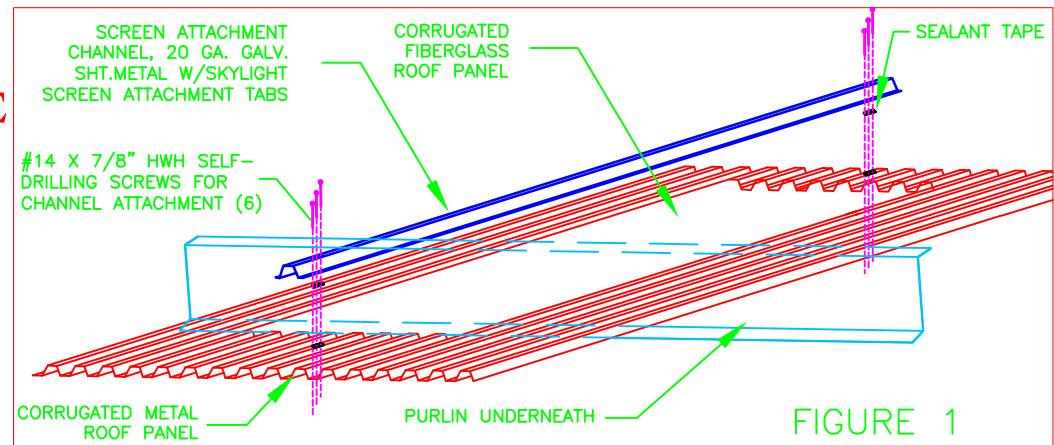

FIGURE 1
1. POSITION THE SCREEN ATTACHMENT CHANNEL SO THAT EQUAL AMOUNTS OF CHANNEL EXTEND PAST EACH END OF THE FIBERGLASS PANEL OPENING LENGTH AND ATTACH WITH SELF-DRILLING SCREWS (3) PER END (FIGURE 1).
2. LAY CHANNEL ON THE CENTER MOST RIDGE AND DETERMINE DRILL HOLE POSITIONS. APPLY SEALANT TAPE PATCH TO THE AREA OF METAL ROOF PANEL INTO WHICH THE SELF-DRILLING SCREWS WILL PENETRATE (FIGURE 1).